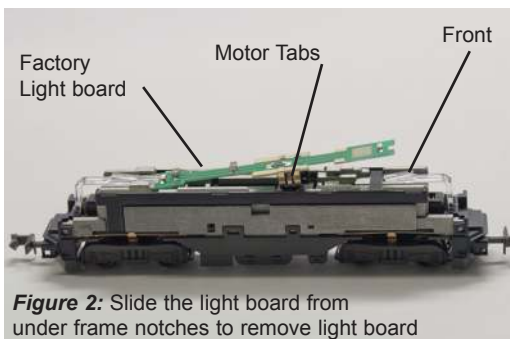

Figure 2: Slide the light board from under frame notches to remove light board
2. Carefully remove the factory light board by sliding it toward the front of the locomotive. Then gently lift the board out of the frame being cautious of the light pipes. Be careful not to bend or damage the motor tabs. (Figure 2)